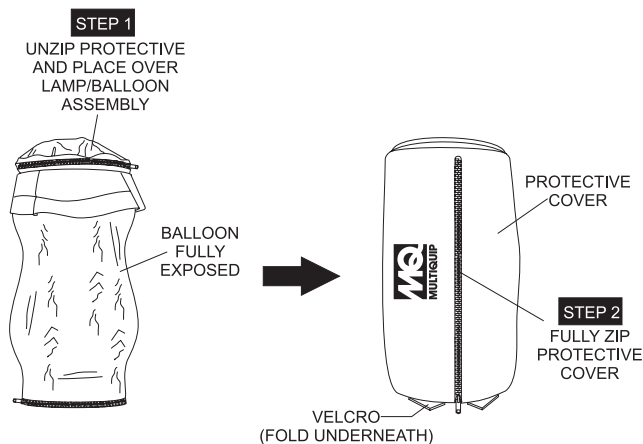
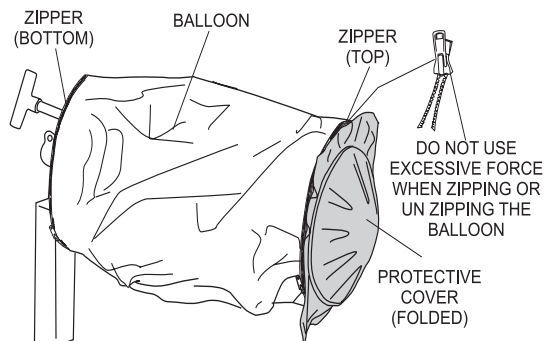
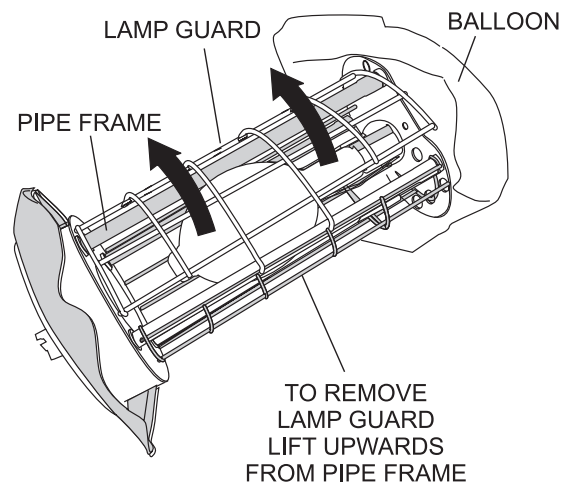

Figure 19. Covering the Lamp/Balloon Assembly
Figure 24. Exposing the Balloon
Figure 25. Removing the Lamp Guard
6. Unzip the protective cover as shown in Figure 19, and place cover over balloon/lamp assembly.
1. Expose the balloon (Figure 24) by pulling down on the velcro tabs and unzip the protective cover as shown in Figure 19. Next, fold the protective cover into itself and zip.
2. Unzip the zipper (Figure 24) at the bottom of the balloon and roll the balloon envelope upwards to expose the lamp (Figure 25). Remove the lamp guard to gain access to the lamp. **DO NOT** use excessive force when un-zipping the balloon.
2. Zip up the zipper at the bottom (Figure 24) of the balloon and pull down the balloon envelope to cover the lamp